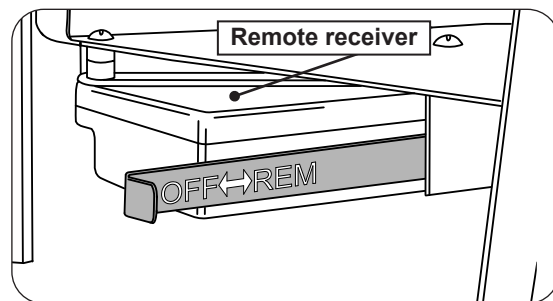

Fig. 33-1
1. Locate the OFF/REMOTE slide actuator on the left rear of the burner. Slide the actuator to the left / **OFF** position. See Fig. 33-1.